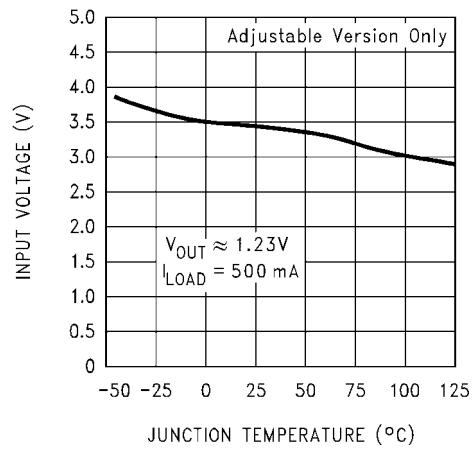

图 6-10. Minimum Operating Voltage
- (1) External components such as the catch diode, inductor, input and output capacitors can affect switching regulator system performance. When the LM2576/LM2576HV is used as shown in 图 8-3 and 图 8-9, system performance is as shown in 图 6.10.